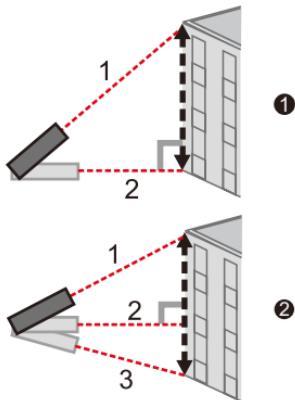

figure 4 - figure 5
• Pythagorean Method-Two points (figure 4)